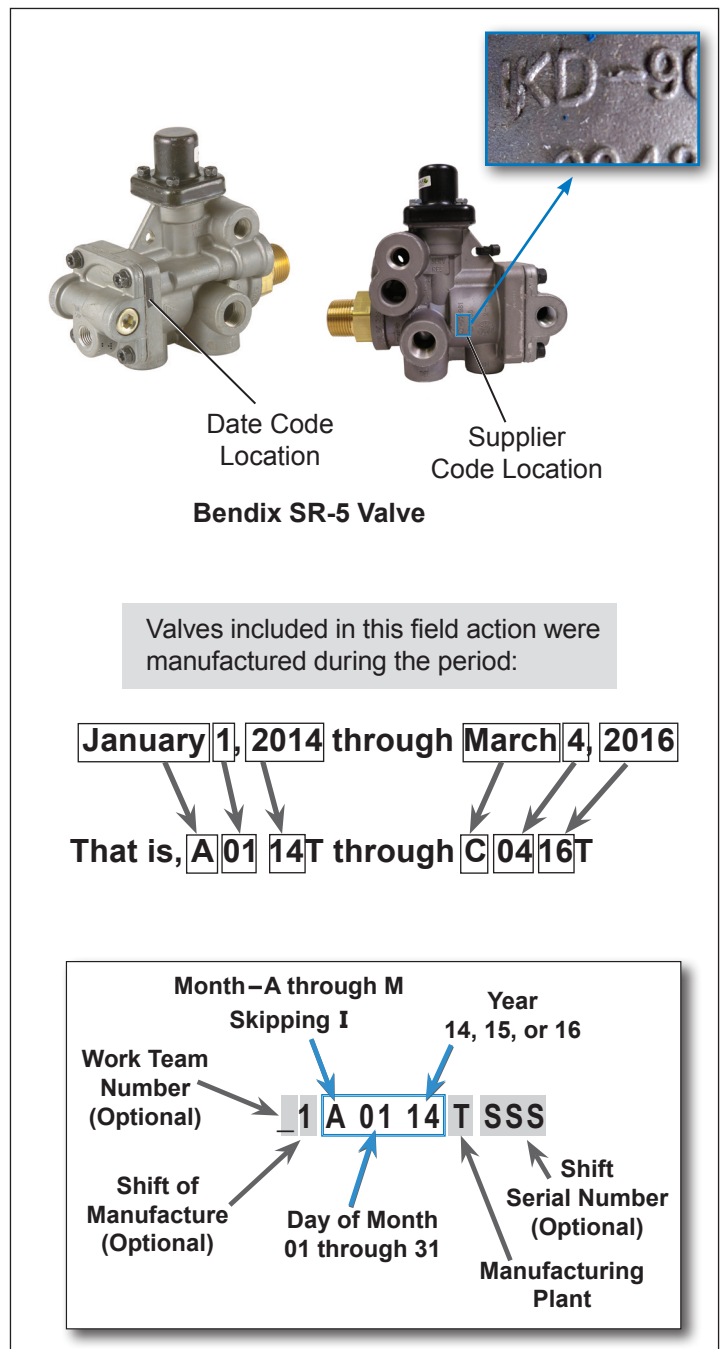

Figure 9 – Recall Identification
1. The supplier code—"IKD"—located as shown in Figure 9; and